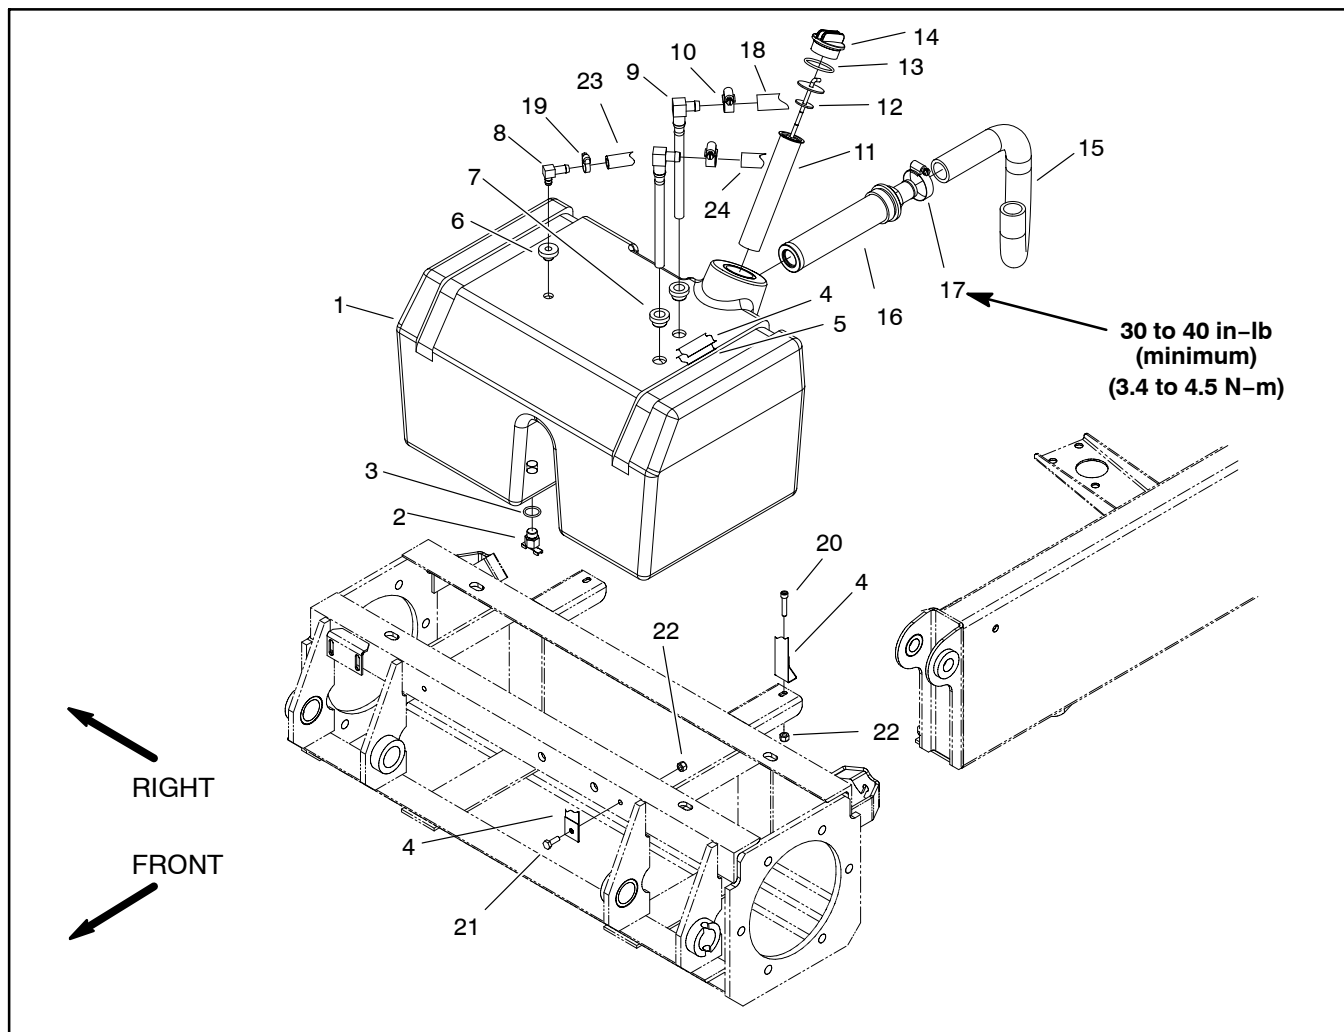

Figure 84
5. Remove hydraulic reservoir using Figure 84 as a guide.
1. Install reservoir using Figure 84 as a guide.